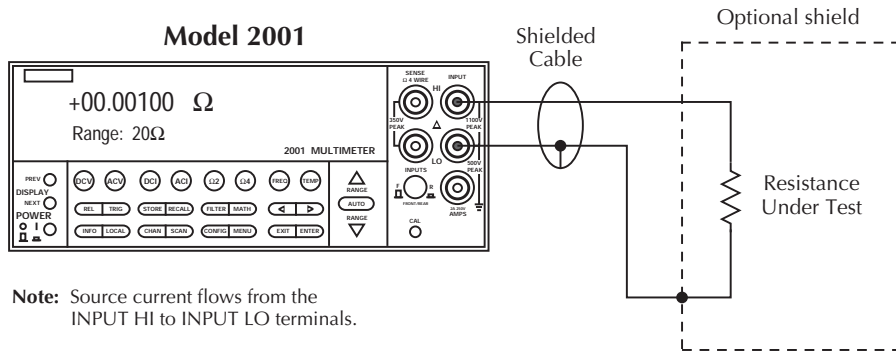

Figure 3-14
5. Connect the test leads to the resistance as shown in Figure 3-14.